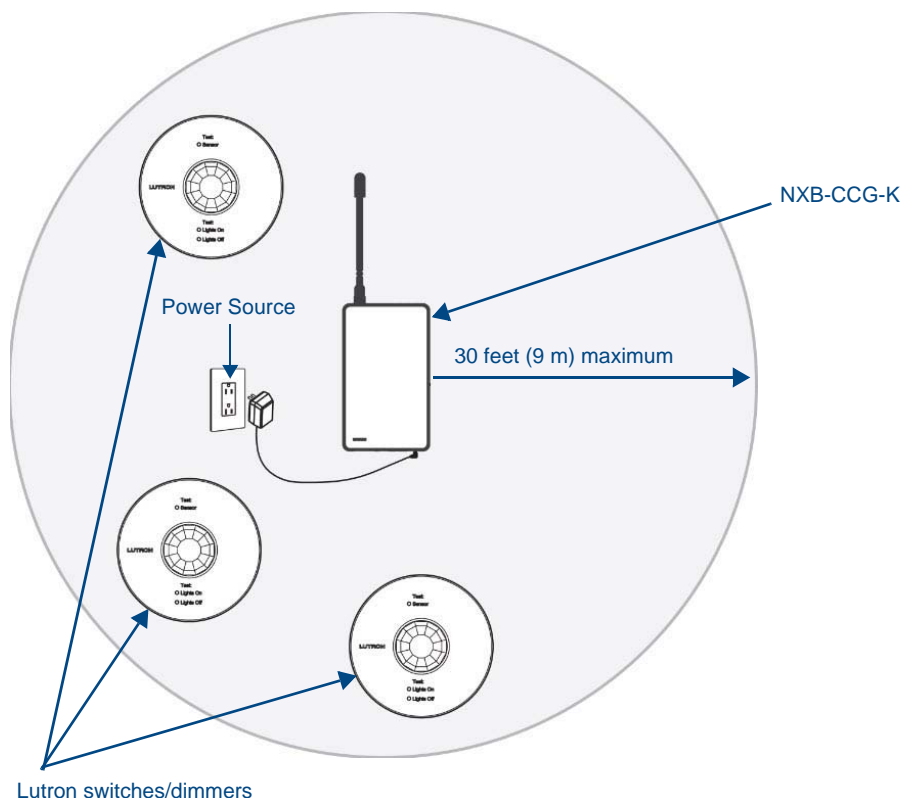

FIG. 2 RF Configuration
All dimmers, switches, keypads and shades / draperies must be located within 30 ft (9 m) of the NXB-CCG-K (FIG. 2).
3. Attach the DC adapter cord to the power jack on the NXB-CCG-K and insert the DC adapter plug into a receptacle (FIG. 2).